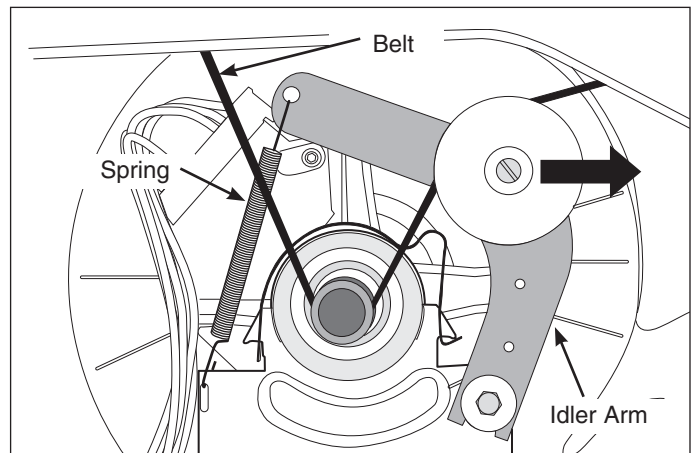

Figure 4-29.
2. From the rear of the unit, reach under the drum and pull the idler arm assembly to the right and release the belt from the roller guides and motor pulley. (See Figure 4-29)